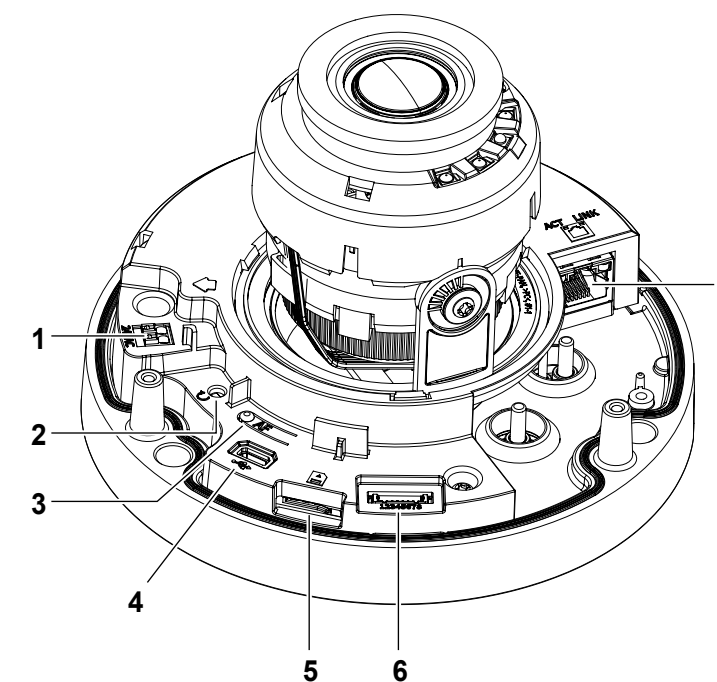
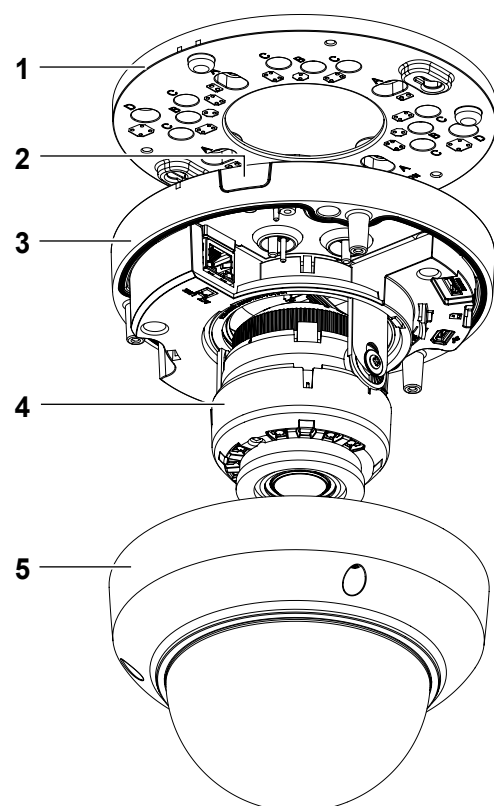

Figure 2
Figure 1
4. Unscrew the three screws on the camera dome (5) (Figure 1) to remove the dome from the camera base (3) (Figure 1).
Camera buttons and connections: Figure 2
Camera Parts: Figure 1
7. Before you lock the mounting plate (1) (Figure 2) to the camera base you must place the cable through the cable side entry slot on the camera base (2) (Figure 1) or through the cable hole in the camera mounting plate.